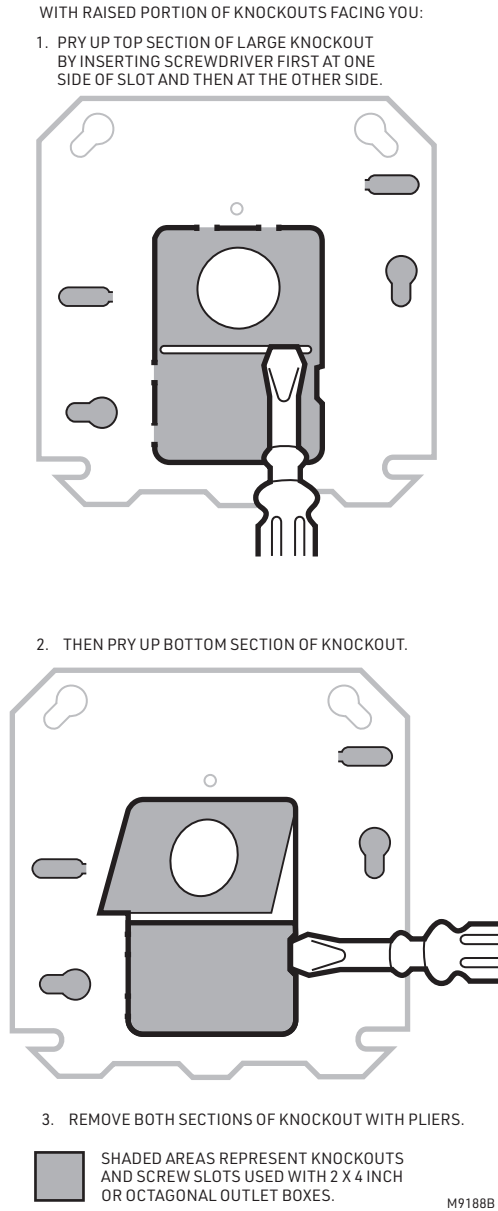

Fig. 14. screwdriver to pry out both sections of knockout.
1. Remove the large rectangular knockout in the mounting plate as shown in Fig. 14.